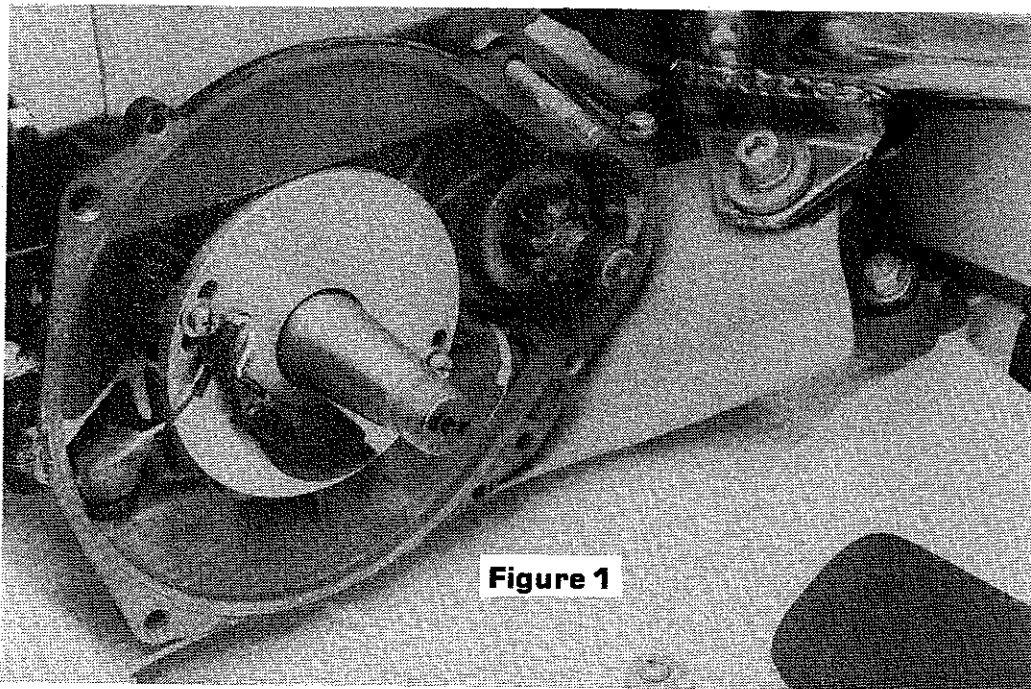

Figure 1
7. Install DYNA S stator plate assembly and position as shown in Figure 1. Pass the red and white wires through the hole in the crankcase.